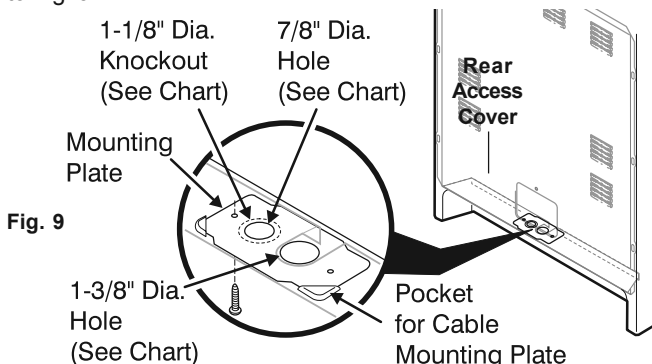

Fig. 10
This appliance may be connected by means of a power supply cord. Only a power supply cord kit rated at 125/250 volts minimum, and marked for use with ranges shall be used. See Fig. 10 for cord kit ampere rating information. Cord must have either three (3) or four (4) conductors (See Fig. 8). Terminals on end of wires must be either closed loop or open-end spade lugs with upturned ends. Cord must have strain relief properly installed. See Steps 4a. for 4-Wire or 4b. for 3-Wire connections.